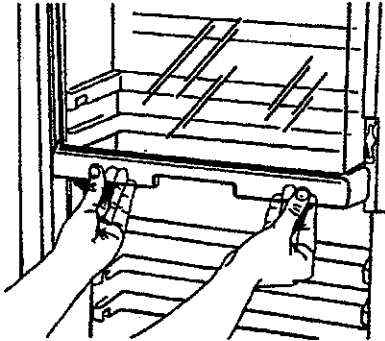

Figure 37
- a. Open beverage chiller by sliding door upward. Door remains in position until moved again. Door locks in place at highest position. See Figure 37.